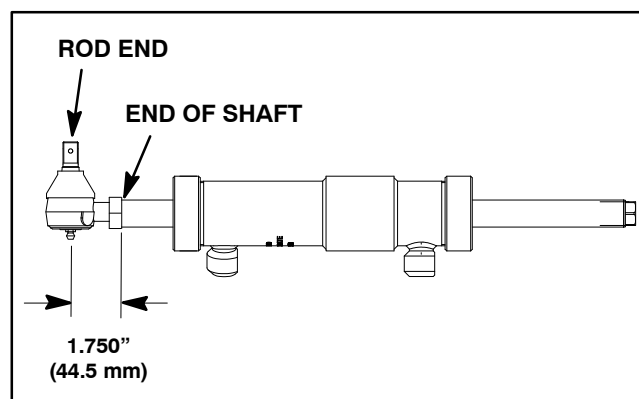

Figure 134
2. If removed, press ball joint (item 10) into barrel and secure with retaining ring.
3. If rod end (item 12) was removed from steering cylinder shaft, thread rod end into shaft so that distance from end of shaft to center of grease fitting in rod end is 1.750" (44.5 mm) (Fig. 134). Torque jam nut from **83 to 101 ft-lb (113 to 136 N-m)**. Make sure that distance from end of shaft to center of grease fitting doesn't change during jam nut tightening.
6. Secure steering cylinder to machine with slotted hex nuts (items 15 and 16).
A. On front axle steering cylinder, torque rod end slotted hex nut (item 15) from **57 to 75 ft-lb (78 to 101 N-m)**. If necessary, continue to tighten hex nut to allow cotter pin installation.
B. On both front and rear axle steering cylinders, torque barrel end slotted hex nut (item 16) from **80 to 90 ft-lb (109 to 122 N-m)**. If necessary, continue to tighten hex nut to allow cotter pin installation.